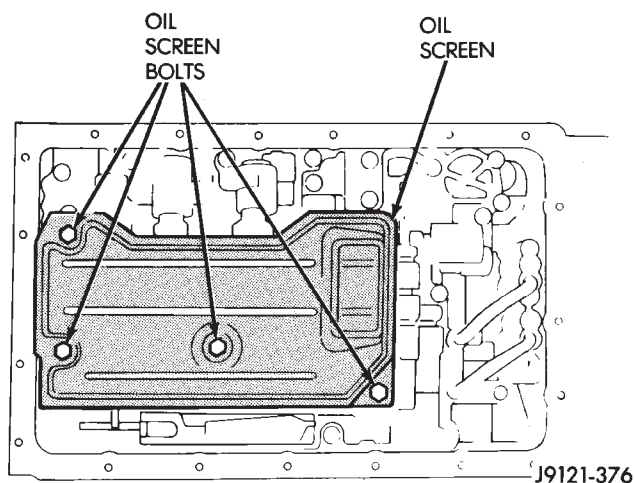

Fig. 6 Oil Screen Removal/Installation
(1) Remove transmission oil pan drain plug and drain fluid.
(2) Remove pan bolts and remove oil pan.
(3) Remove oil screen bolts and remove screen (Fig. 6) and gasket. Discard the gasket.